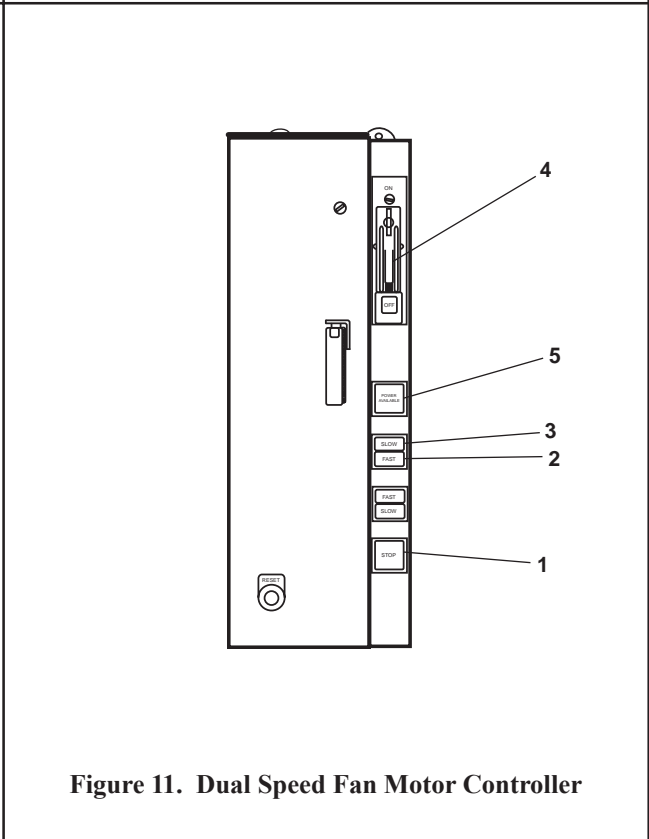

Figure 11. Dual Speed Fan Motor Controller
- a. Press the STOP pushbutton (figure 11, item 1).
- b. Verify that the FAST speed indicator (figure 11, item 2) or SLOW speed indicator (figure 11, item 3) goes out.
- c. Set the ON-OFF switch (figure 11, item 4) to OFF.
- d. Verify that the POWER AVAILABLE indicator (figure 11, item 5) goes out.
- a. Press and release the STOP pushbutton (figure 11, item 1).
- c. Set the ON-OFF switch (figure 11, item 4) to the OFF position.